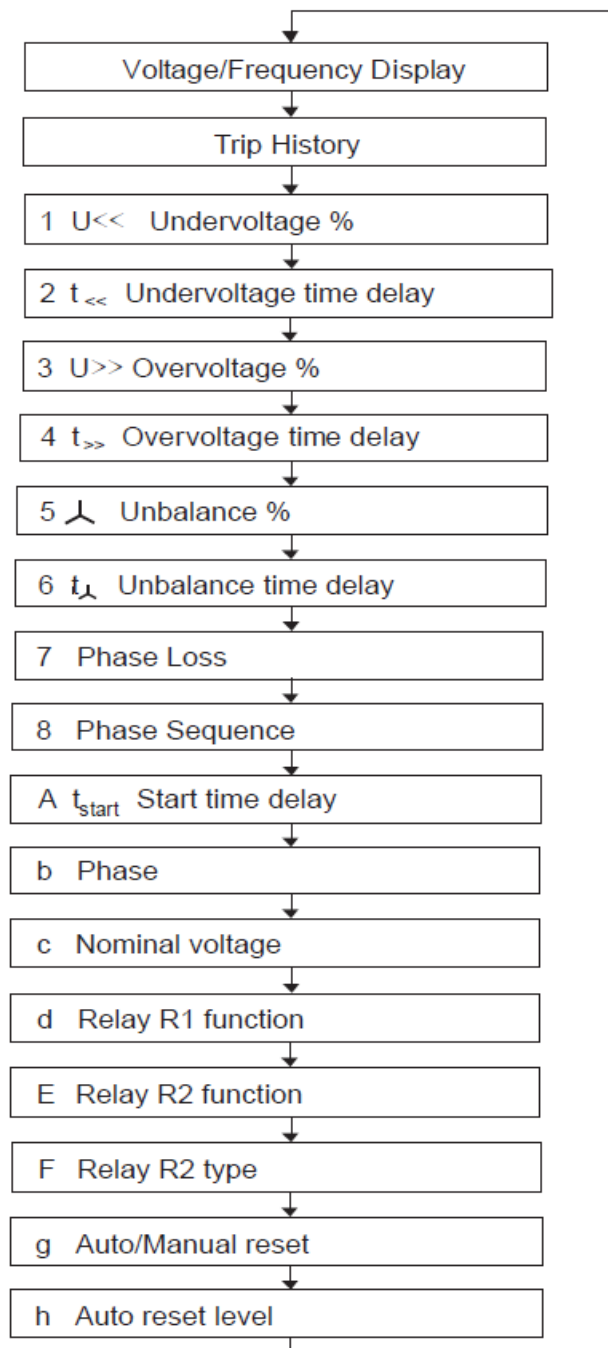

Figure 4: Display mode when pressing Reset/Mode
- Function LED shows a number or alphabet to indicate which setting is being viewed, as shown in Figure 4.